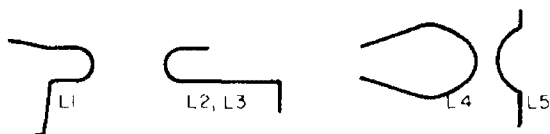

fig. 3. Coils for 6939 mixer (fig. 2) and linear-amplifier (fig. 10).*
*Full-size templates of fig. 3, fig. 8 and fig. 18 are available from ham radio for 25c.
fig. 10. 6939 linear amplifier operates at 43% efficiency. Inductors for this stage as shown in fig. 3; layout is in fig. 8. Operational data for this stage is listed in table 3.